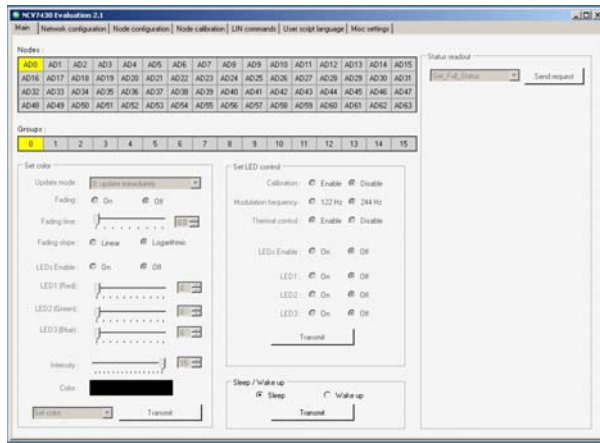

Figure 10. The Initial Address
6. The initial address for the NCV7430 device is AD0 (see Figure 10).